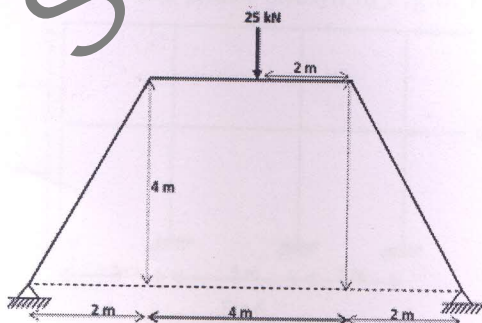

Fig.2
- 2. Using moment distribution method, analyse the frame supported and loaded as shown in Fig.2. Draw BMD. [10]